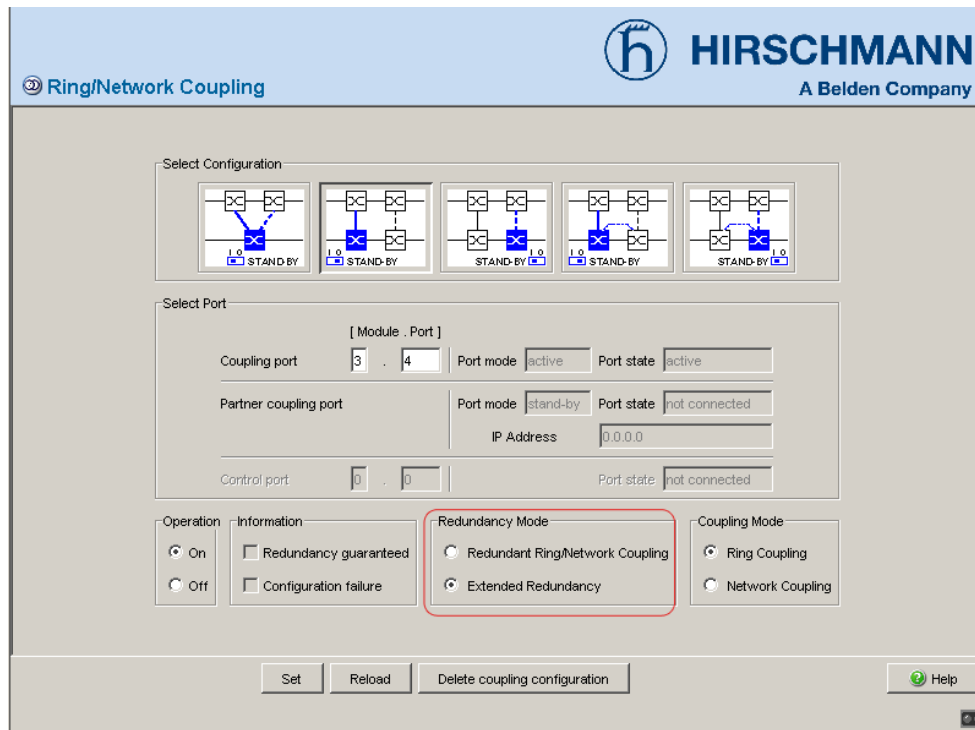

Fig. 22: Selecting the redundancy mode
- Select in the frame "Redundancy mode" (see Fig. 22)